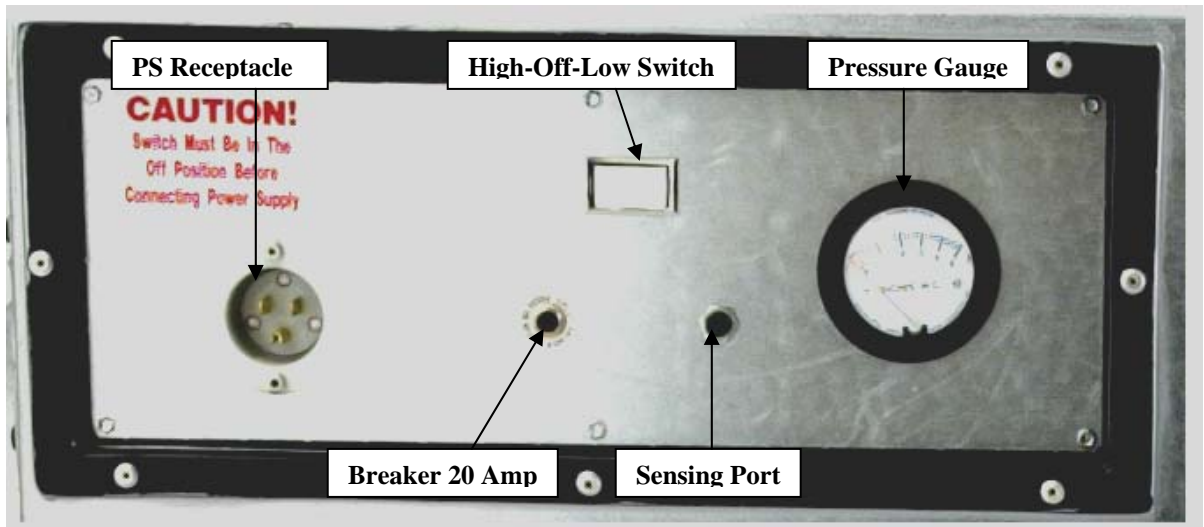
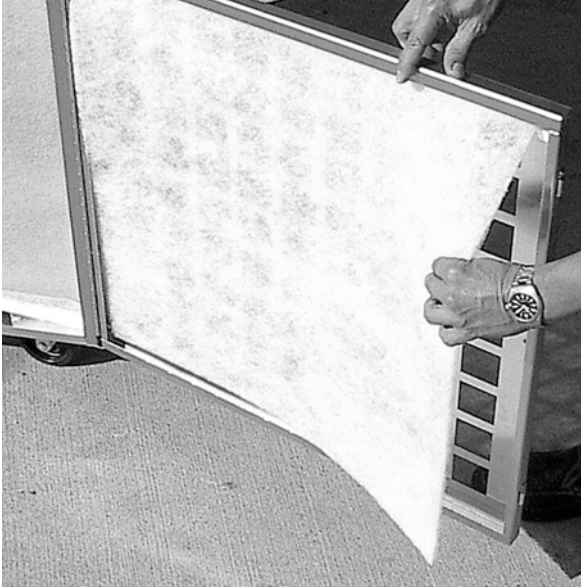
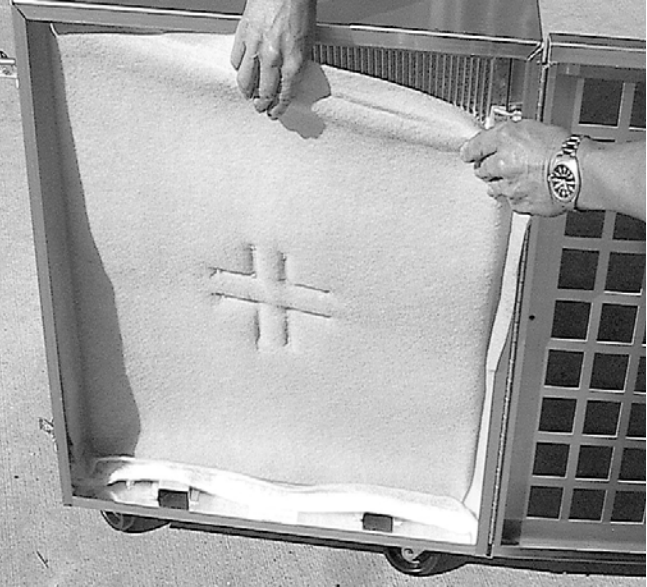
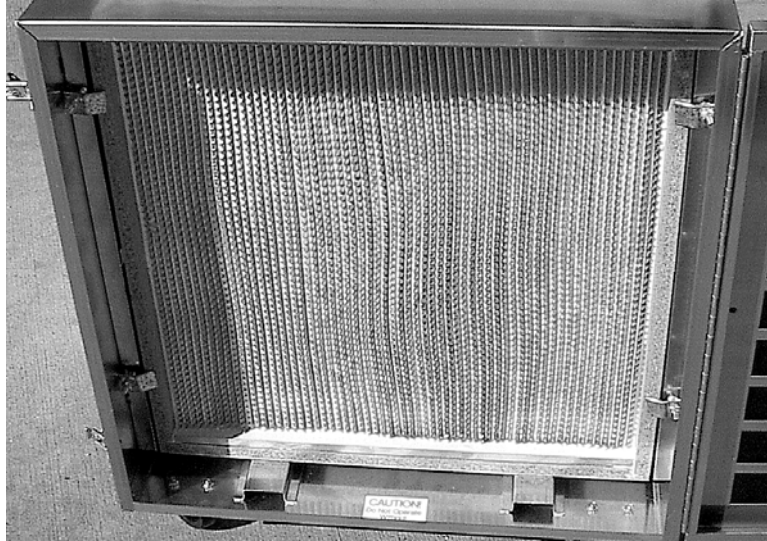

Fig. 1 Control Panel
Fig. 2 Pre-filter Pad
Fig. 3 Ring Panel Filter
Fig. 4 HEPA Filter
- 3.4.2 The main switch is located on the control panel (see fig. 1) and is a three position switch (High-Off-Low). Push the switch to the right to operate in low speed or to the left to operate in high speed, the middle position is off.
4.1.3 Removes large particles up to 10 microns and larger from the air flowing through the unit, thereby preventing premature loading of the second stage and HEPA filters. The pre-filter pad (see fig 2) is recommended to be changed as it becomes loaded and the airflow capacity of the unit decreases, or the pressure gauge at the control panel exceeds 2.6 inches at high speed or 1.9 inches at low speed, of W.C. (see fig 1).
4.2.3 Removes particles up to 1 micron and larger from the air flowing through the unit, thereby protecting the more expensive, HEPA filter. The ring panel filter (see fig 3) is recommended to be changed as it becomes loaded and the airflow capacity of the unit decreases, or the pressure gauge at the control panel exceeds 2.6 inches on high speed (1.9 inches on low speed) of W.C. (see fig 1).
4.3.3 Removes smaller contaminated particles up to 0.3 micron from the air flowing through the unit and has an efficiency rating of 99.97%. The HEPA filter (see fig 4) is recommended to be changed as it becomes loaded and the airflow capacity of the unit decreases, or the pressure gauge at the control panel exceeds 2.6 inches on high speed (1.9 inches on low speed) of W.C. (see fig 1). Or depending on the use, every 700 hours per agency recommendations.